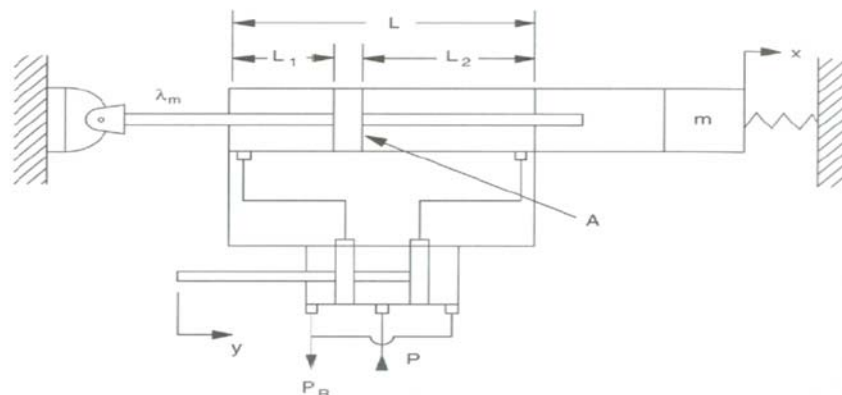
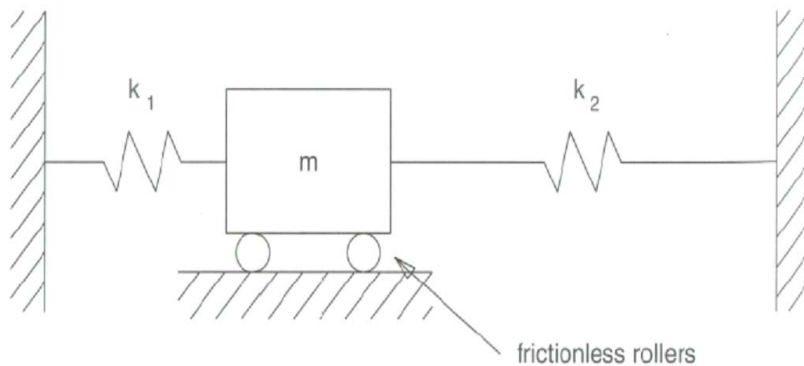

FIGURE 11.36
FIGURE 11.37
- Model for this system shown in Fig 11.36
- The system (Fig 11.36) can be visualized as a mass held in position by a column of fluid.
- The cylinder body with rigidly attached valve body and mass shown in Fig 11.36 can be represented by the mass m shown in Fig 11.37
$$\lambda_{0(\text{max})} = L / 4\beta A \dots\dots\dots\text{Fig 11.37}$$